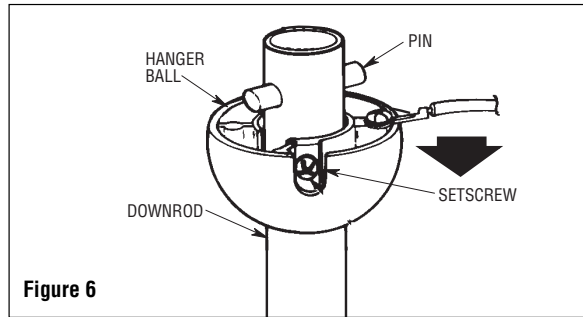

Figure 6
8. Remove the hanger ball by loosening the setscrew in the hanger ball until the ball falls freely down the downrod (Figure 6). Remove the pin from the downrod, then remove the hanger ball. Retain the pin and hanger ball for reinstallation in Step 9.